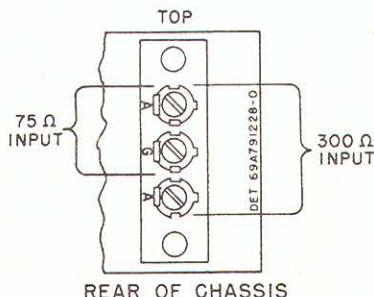

FIGURE 1. ANTENNA CONNECTIONS
A three-terminal antenna strip on the rear of the chassis provides for either 75 or 300 ohm input. See Figure 1.
2. Connect the signal generator to the antenna terminal (see Figure 1) that best matches the generator's output impedance.